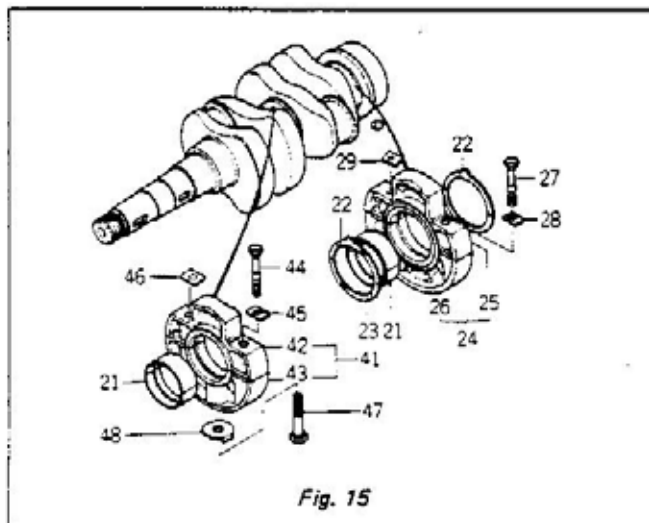

Fig. 15
5. At the time of assembling main bearing case and crankshaft, be sure to observe the following precautions. (Fig. 15).